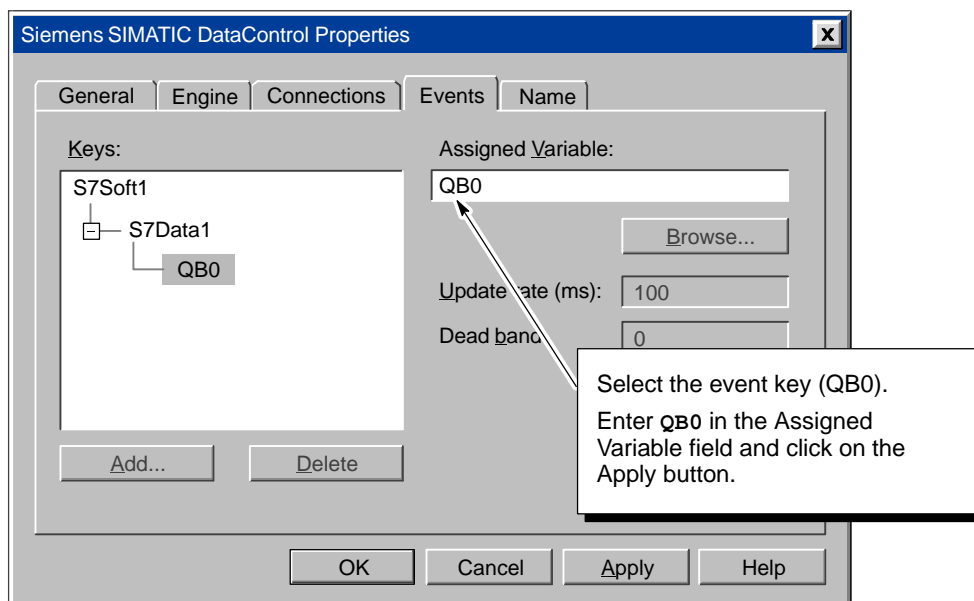

Figure 1-16 Assigning a Variable to an Event Key
3. In the Properties dialog box, enter memory address **QB0** in the Assigned Variable field. See Figure 1-16.